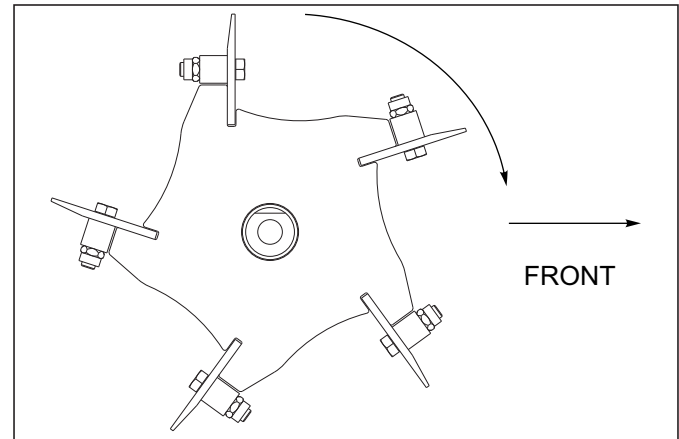

Figure 4-23: Chopper Reel Direction
3. Chopper reels should be installed as shown See Figure 4-23 for correct chopping operation (**Note the direction of travel**). If the reels are installed backwards, the blade will contact the ground at a much flatter angle, and not chop or mix the soil as well.